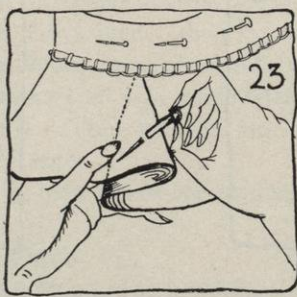
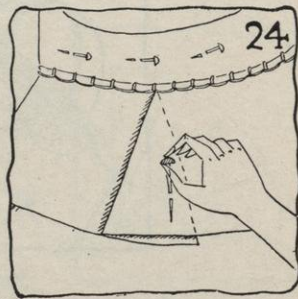

FIG. 23.
FIG. 24.
- j. A ripple or fullness at the edge of the crinoline brim may be removed by pleating crinoline and pinning (see Figure 23).
- k. To remove fullness at edge, slash into brim and lap it a little more at the edge than at the headsize (see Figure 24). Whenever the fullness to be removed is not sufficient to make a pleat as shown in Figure 23, slash and lap the brim in order to remove the fullness.
- (5) If the line at the edge needs to be changed see Figures 23, 24, 25, and 26, pages 28 and 29.